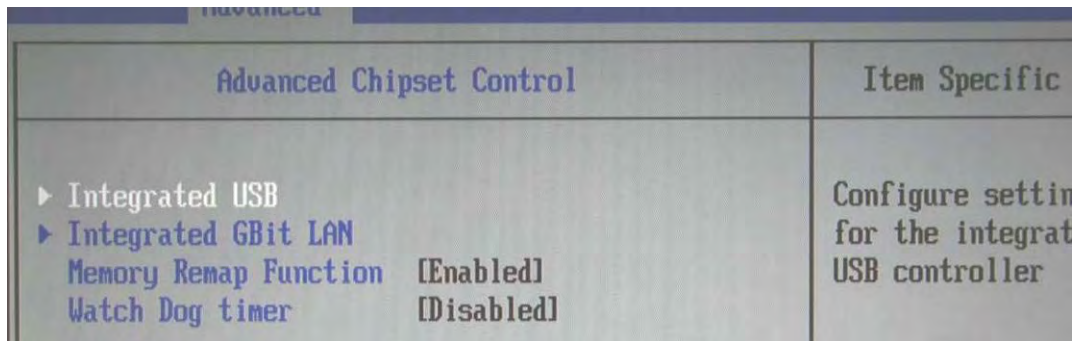

Figure 1-104. Integrated USB
7. Highlight **Integrated USB** and press the **Enter** key (Figure 1-104).